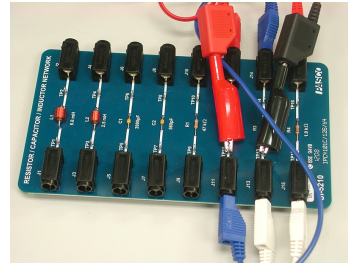

Fig. 4: V across 1st 1 kΩ
4. Move the red alligator to TP 11 (where the black alligator was connected) and move the black alligator to TP 13 on the other side of the 1 kW resistor as shown in Figure 4.